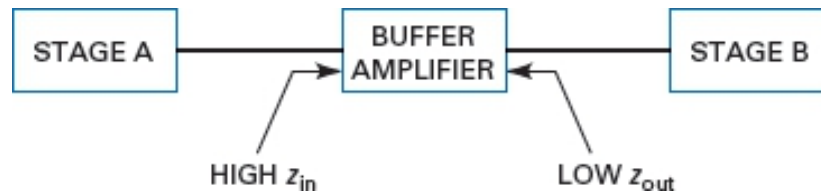

Figure-21 Buffer amplifiers isolates stages A and B
- Figure-21 shows a buffer amplifier, a stage that isolates the preceding stage from the following stage. Ideally, a buffer should have a high input impedance. If it does, almost all the Thevenin voltage from stage A appears at the buffer input.